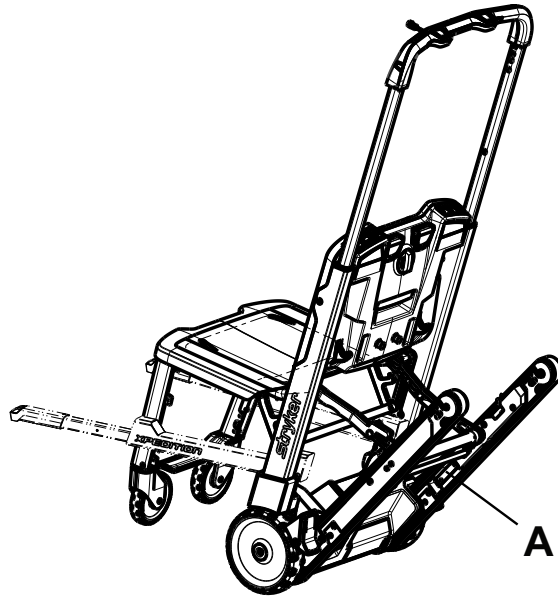

Figure 1 – Serial number location - Xpedition
See below for the chair (A) serial number location (Figure 1).